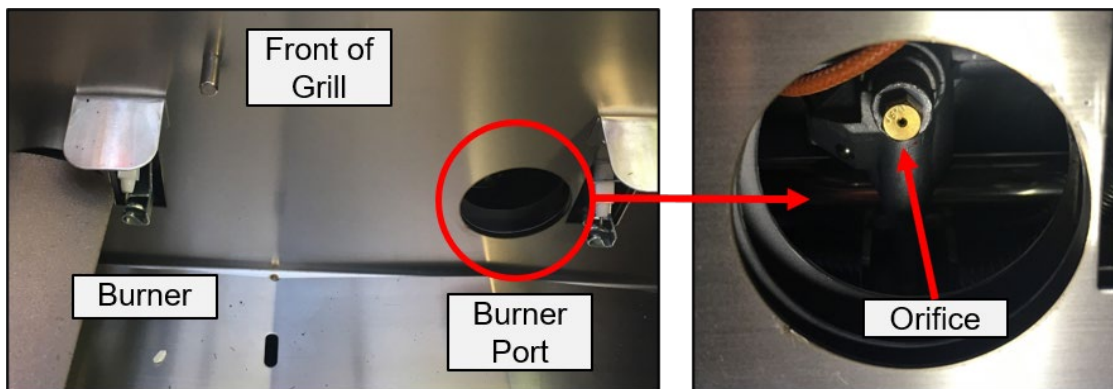

Figure 40 Main Burner Orifice
5. Use a shallow 6mm socket and handle to reach into the burner opening and carefully remove the brass orifice screwed into the end of the valve stem (Figure 40); **brass fittings are fragile**